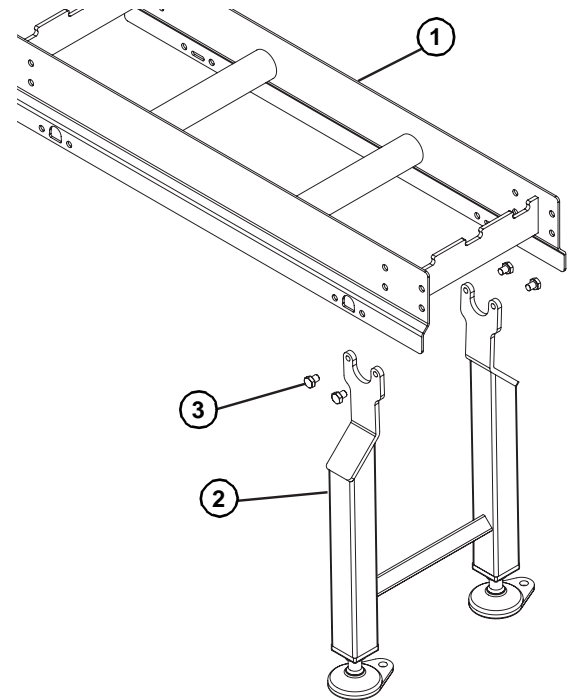

**Figure 8**
4. Attach the flat connectors (**Figure 8, item 1**), if applicable, to the inside of the frame sections.